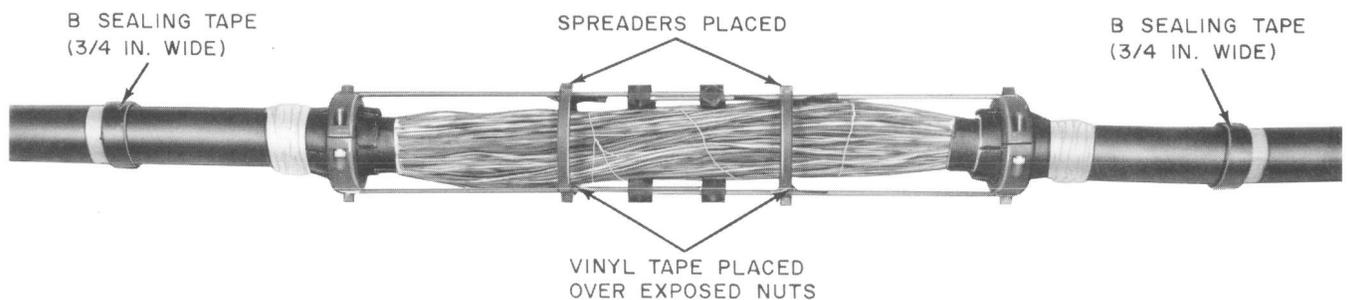

Fig. 9—Sealing Tape and Spreaders Placed
4.08 Remove the closure cover. Place 3/4-inch wide B sealing tape around the cable at the B paper tape markers (Fig. 9). Butt the ends of the tape. Do not stretch the tape. Bolt the spreaders to the tie bars. Cover the exposed nuts and bolts on the tie bar with vinyl tape (Fig. 9).